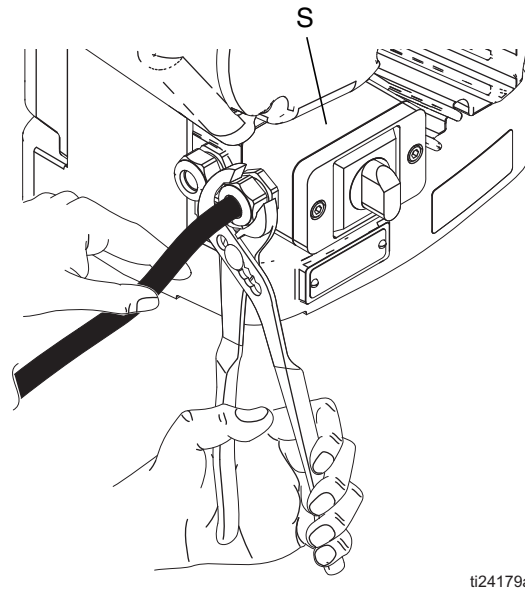

FIG. 5: Junction Box Screws and Strain Relief
- Replace junction box screws and washers removed in step 2 and tighten cord grip to securely hold power cord in junction box (S). See FIG. 5.